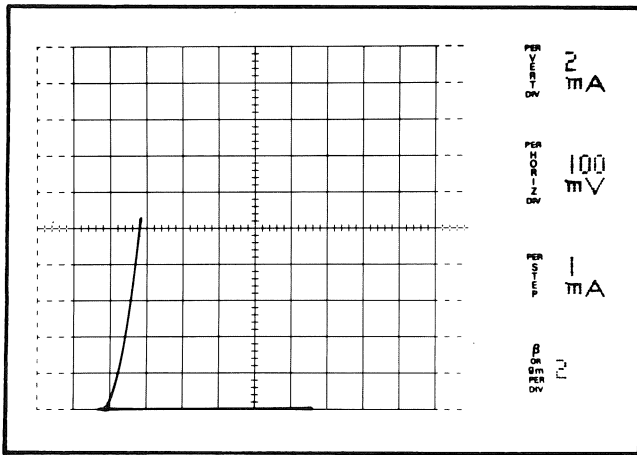

Fig. 2-4. Test 1,  $V_{CE}(\text{sat})$
7. The horizontal deflection at 10 mA (180 mV) is  $V_{CE}$  (sat). See Fig. 2-4.